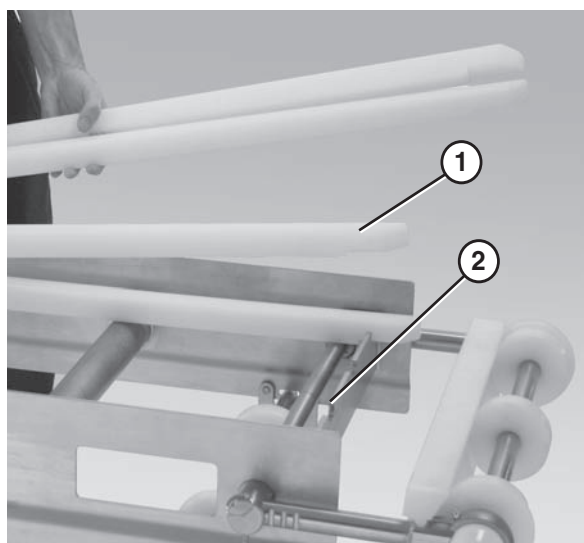

Figure 34
1. Position the wear strips (Figure 34, item 1) on the frame.
2. Make sure the wear strips are situated securely in the frame slots (Figure 34, item 2).